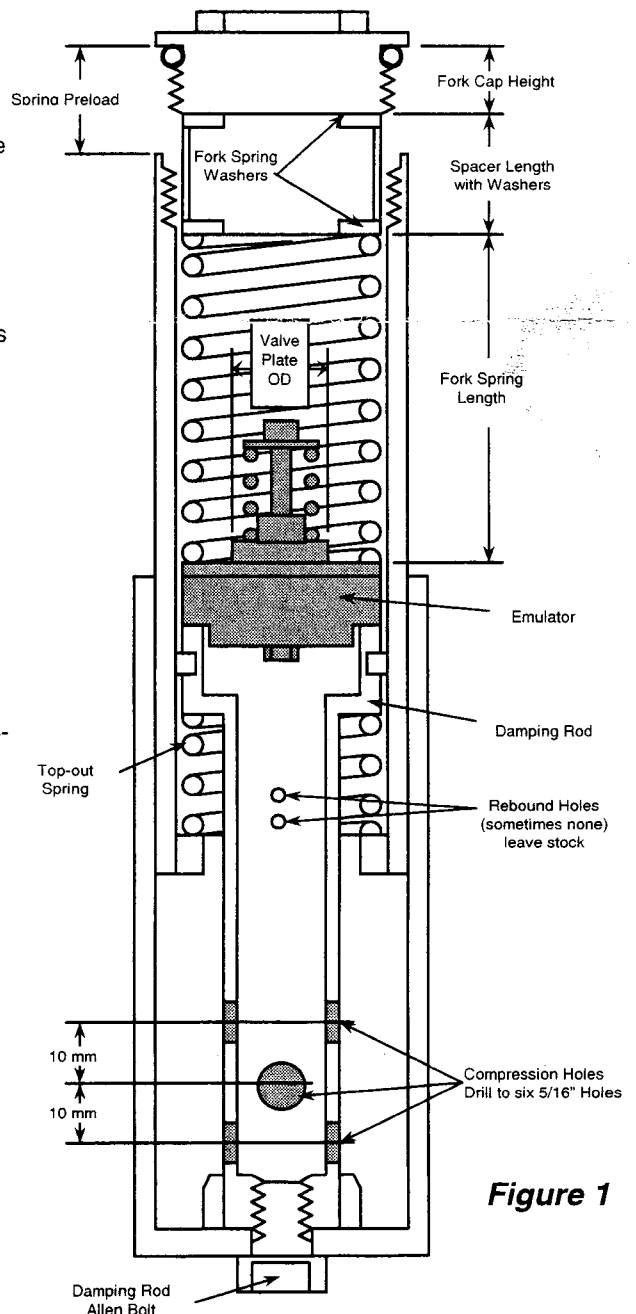
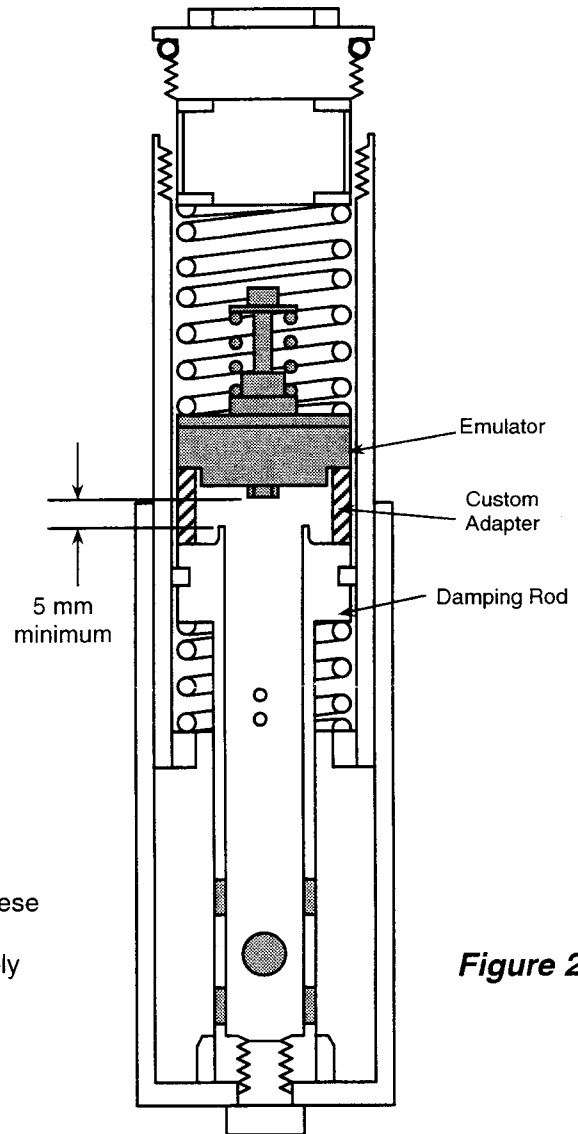

Figure 1
Figure 2
2 **Check the fit of the Gold Valve Emulator** by placing it on top of the damping rod. The step on the Emulator must sit into the large hole in the top of the damping rod and must completely cover it so there is no blow-by (figure 1).
- b) **Check the inner diameter of the fork spring.** It must be at least 4 mm (0.160") larger than the Emulator Valve Plate OD itself for proper flow (figure 1).
3 **Drill the existing compression holes in the damping rod to 5/16 inch (8 mm) and add additional 5/16" holes so you end up with six holes (3 sets of 2 holes) (figure 1).** When drilling new holes, space them axially (lengthwise) at 10 mm (7/16") increments. Each set of two holes must be perpendicular to the last set so as not to weaken the rod (figure 1). After drilling, chamfer and deburr the compression holes, inside and out. **Do not add or enlarge the rebound holes and leave their edges sharp if any exist.**
- a. Drop the Emulator down the tube. It sits on top of the damping rod with the Emulator Valve Spring facing up and is held in place with the main fork spring. Refer to figure 1. Visually check to make sure the Emulator is sitting squarely on top of the damping rod or the adapter. If you have flat top style damping rods it requires adapters (figure 2) and they should be installed first, before the Emulator.
- c. Set the fork cap on the washer and determine the preload by measuring from the top of the fork tube to the sealing lip on the fork cap (see figure 1). This is a direct measurement of fork spring preload. Shorten the spring spacer tube to achieve the proper preload as shown in the Table.
Adapter Height – The adapter must be tall enough to allow 5 mm (0.200") clearance between the top of the hole in the damping rod and the bottom of the jam nut on the Emulator. (Figure 2)